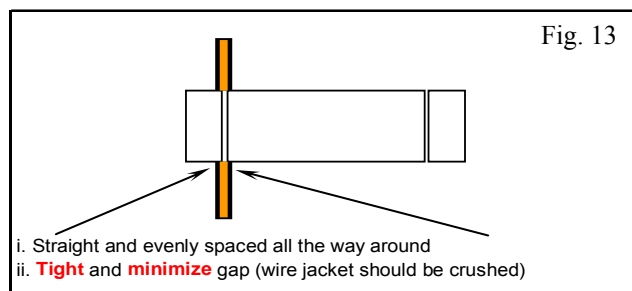

Fig. 13
- 19) Inspect the tap to ensure correct installation. Fig. 13